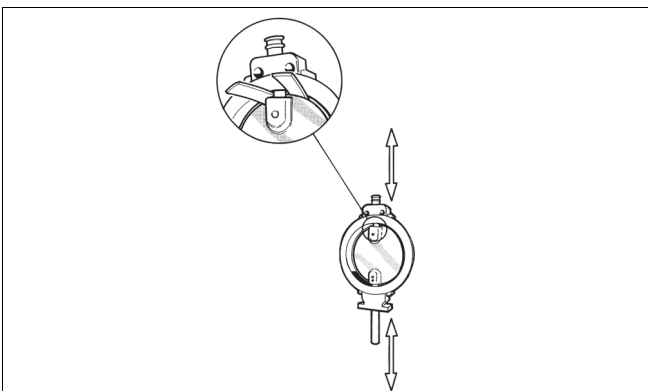

Fig. 15 Protecting the disc during disassembly and assembly
- Drill the holes carefully to the centre of the pins (14). Choose a drill 0.2-0.5 mm smaller than the diameter of the pin.
- Dismantle the gland packing including anti-extrusion ring (22), when applicable, according to Section 5.3.
- Detach the screws (26) and the blind flange (10) and remove the gasket (18).
- Place rubber strips or other protection between the disc edge and the body and remove the shafts (see Fig. 15).